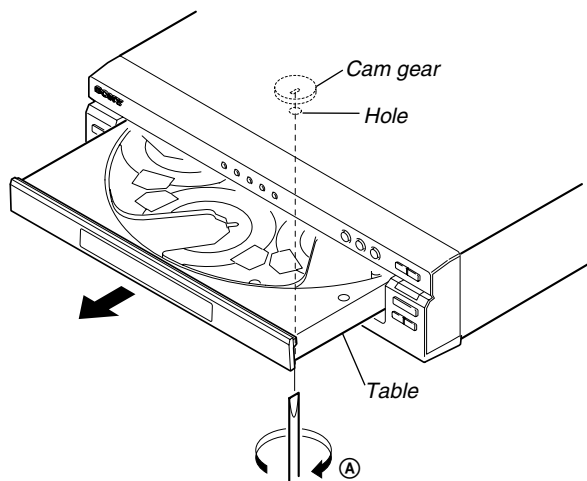

Fig. 2.
- 1) Insert a flat-head (-) screwdriver into a hole at the bottom, and rotate the cam gear in the direction of the arrow ①. (See Fig.2)